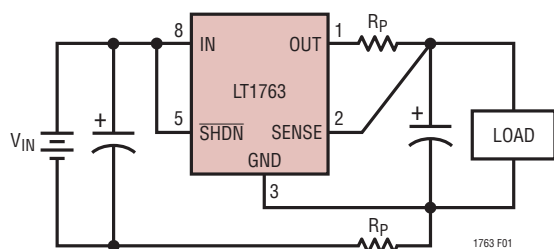

Figure 1. Kelvin Sense Connection
**SENSE (Pin 5/Pin 2):** Output Sense. For fixed voltage versions of the LT1763 (LT1763-1.5/LT1763-1.8/LT1763-2.5/LT1763-3/LT1763-3.3/LT1763-5), the SENSE pin is the input to the error amplifier. Optimum regulation will be obtained at the point where the SENSE pin is connected to the OUT pin of the regulator. In critical applications, small voltage drops are caused by the resistance ( $R_P$ ) of PC traces between the regulator and the load. These may be eliminated by connecting the SENSE pin to the output at the load as shown in Figure 1 (Kelvin Sense Connection).